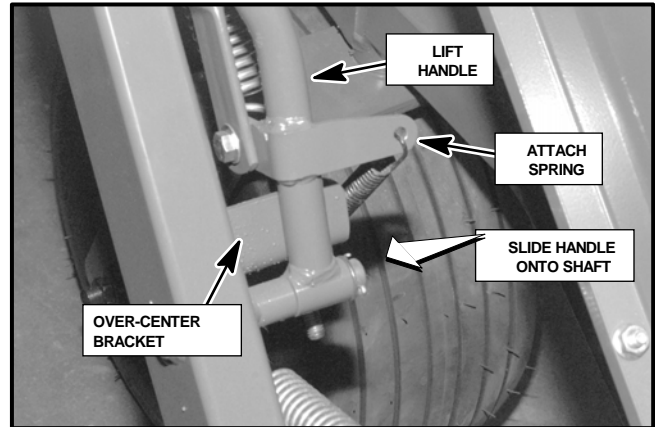

Figure 27
3. Apply a small amount of a lithium-based lubricant to the lift handle mounting shaft and slide the handle onto the shaft. The bracket welded on the bottom of the handle will face towards the front of the vehicle (See Fig. 27).
4. Secure the lift handle using one (1) retaining washer (Part No. 548165) and one (1) cotter pin (Part No. 304635).
5. Attach one end of the handle spring to the mounting tab at the bottom of the handle and attach the other end of the spring to the hole on the over-center bracket (See Fig. 27 & 28).